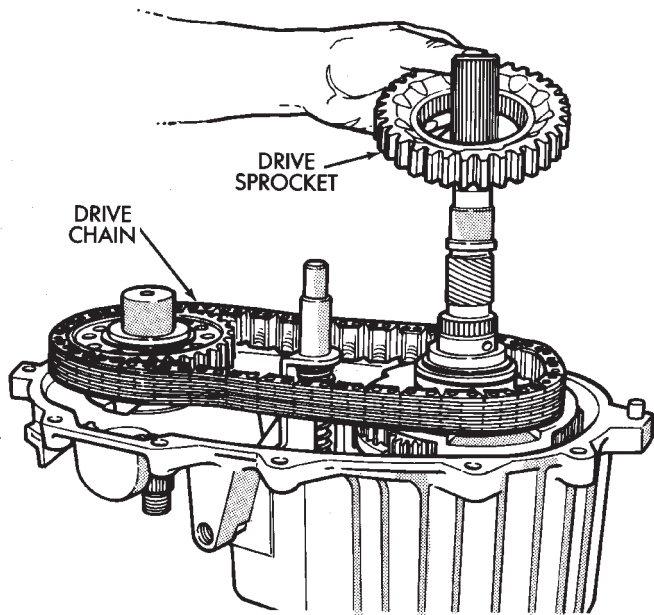

fig. 11 Drive Sprocket And Chain Removal
(20) Remove drive sprocket and chain (Fig. 11).